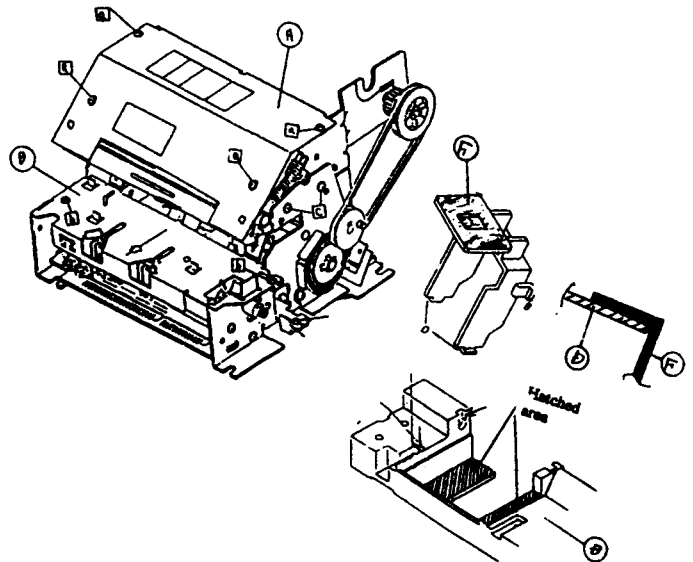

Figure 5-5. Stamp Pusher Position
- Position the Upper Frame Assembly, C, on the Lower Frame Assembly, I, and replace the four screws ③ (see Figure 5-5, to the right).
**Caution:** Locate Stamp Pusher ④ on the hatched area as shown in the figure.